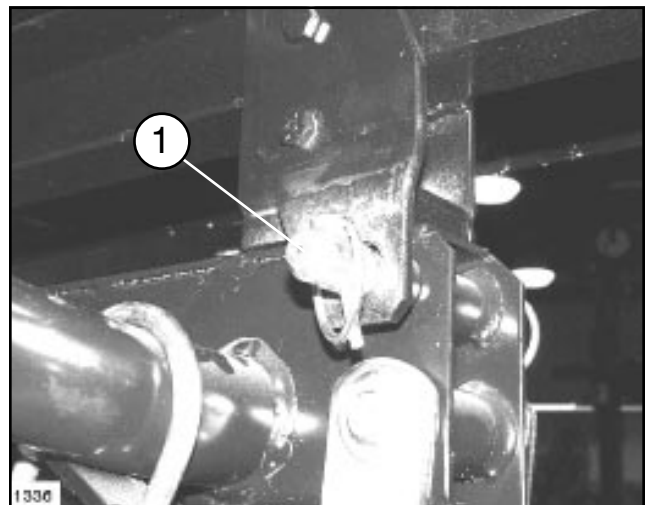

FIG. 2
G. Remove Rear Securing Pins, shown in Figure 2.